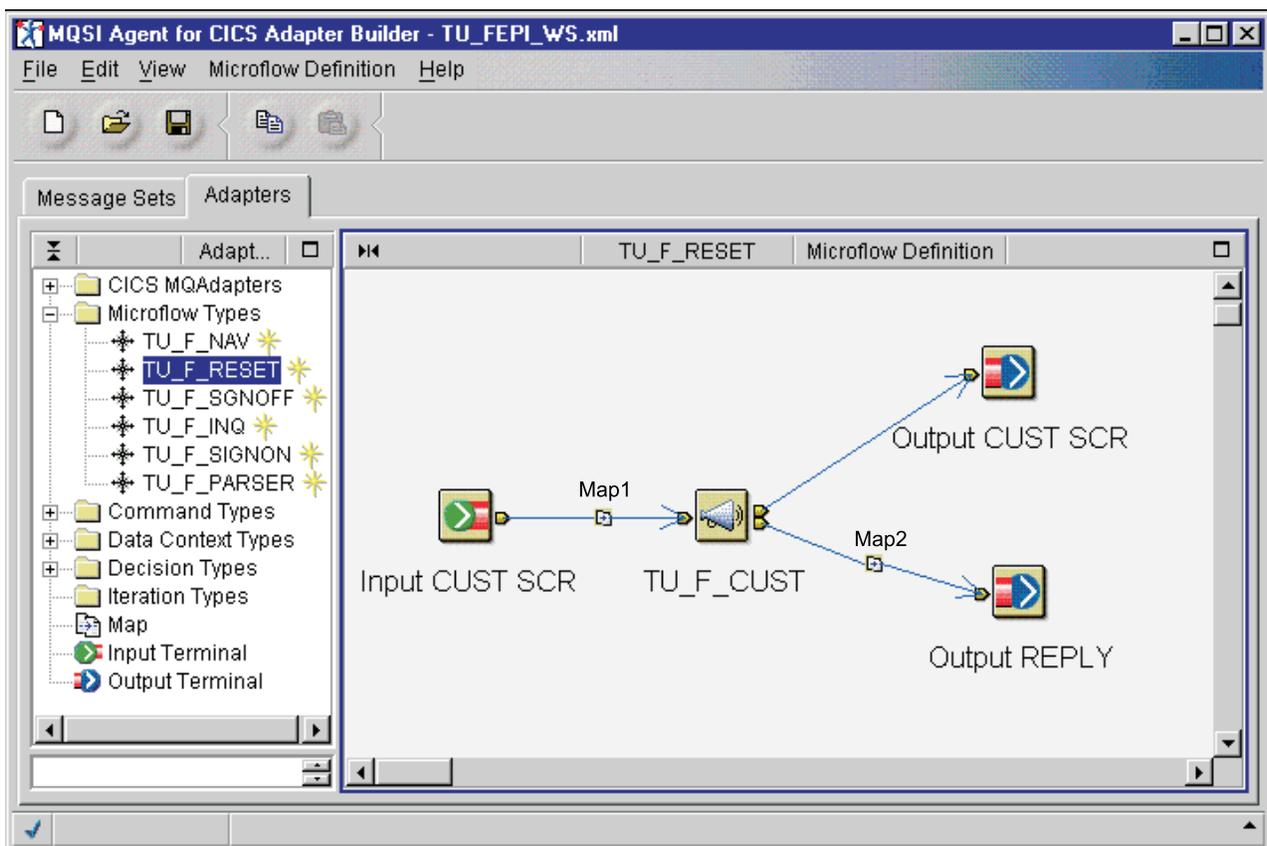

Figure 149. TU\_F\_RESET Microflow
You will add the nodes shown in Figure 149 on page 193.
- 1) Right click on the Input CUST SCR node and select **Connect > Out**. Move the connection line to the TU\_F\_CUST node and left click. This adds a control connection and a map (Map1 node) between the two nodes. Refer to Figure 149 on page 193.